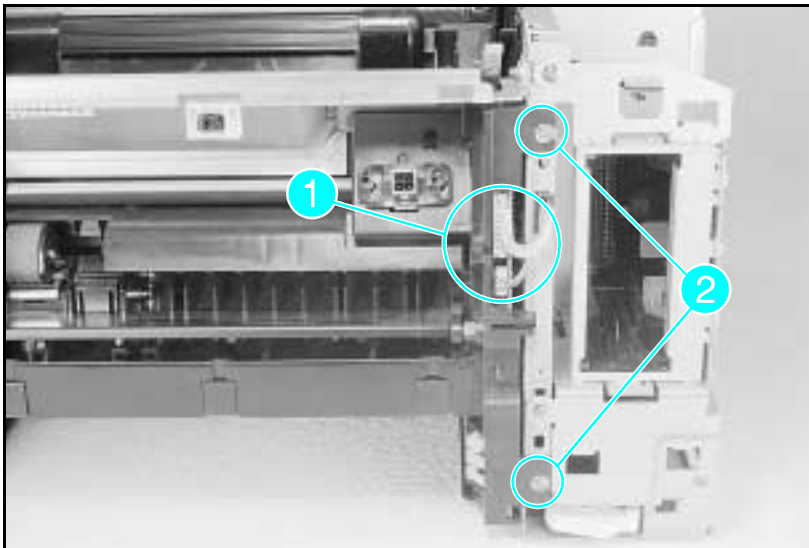

Figure 6-16 Paper Feed Assembly Screws and Connectors
- 3** Disconnect the 13-wire connector and the 4-wire connector from the front of the Paper Feed Assembly (see Figure 6-16, callout 1).
- 4** Remove the (2) screws from the right side of the Paper Feed Assembly (see Figure 6-16, callout 2).